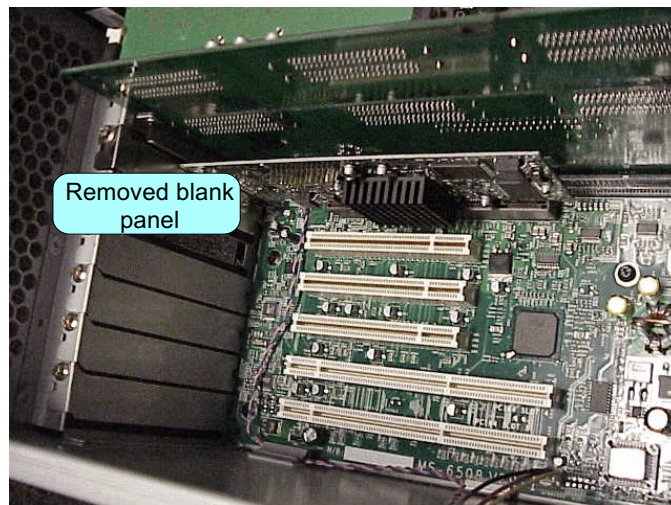

Figure 2
- c. Remove the blank panel from the PCI slot next to the AGP video card slot (Figure 2).